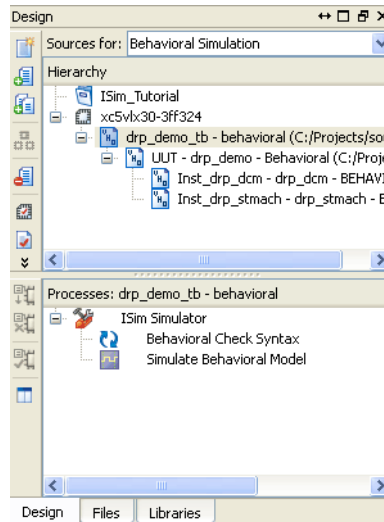

Figure 2-16: Process Pane
1. In the Sources for drop-down menu, select **Behavioral Simulation**. Highlight the tutorial design test bench, drp\_demo\_tb by clicking the file name. You should now see the simulation processes available for the design in the Processes pane. (Refer to Figure 2-16)